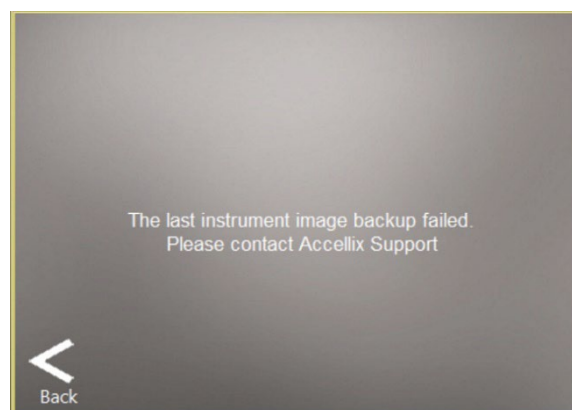

Figure 36: Instrument image backup failed dialog
**Note:** If the instrument has been configured to make automatic system-wide backups and a backup failed, the yellow warning triangle will also appear. Clicking on the yellow triangle button will display a dialog message explaining the error. For example, if the error was a failure to backup the instrument, the following dialog message is displayed (see Figure 36).